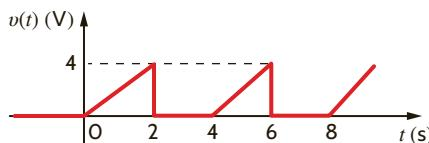

Figure E9.14
- E9.14** Compute the rms value of the voltage waveform shown in Fig. E9.14.